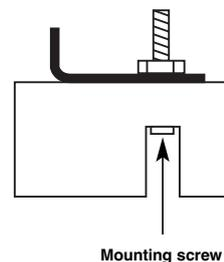

Figure 6
4. Remove the mounting screw holding existing switch, refer to Figure 6.